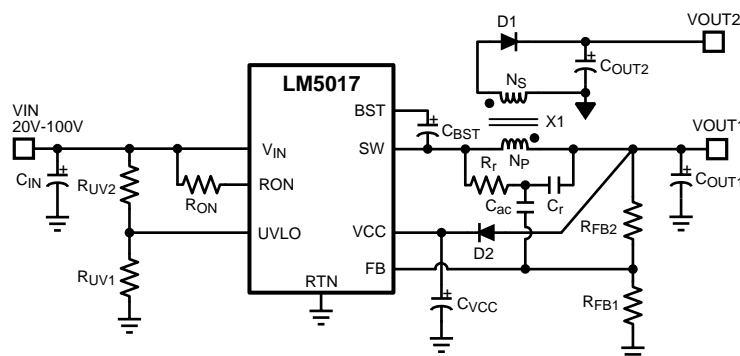

Figure 17. Typical Isolated Application Schematic
An isolated supply using LM5017 is shown in Figure 17 below. Inductor (L) in a typical buck circuit is replaced with a coupled inductor (X1). A diode (D1) is used to rectify the voltage on a secondary output. The nominal voltage at the secondary output (V_{OUT2}) is given by: